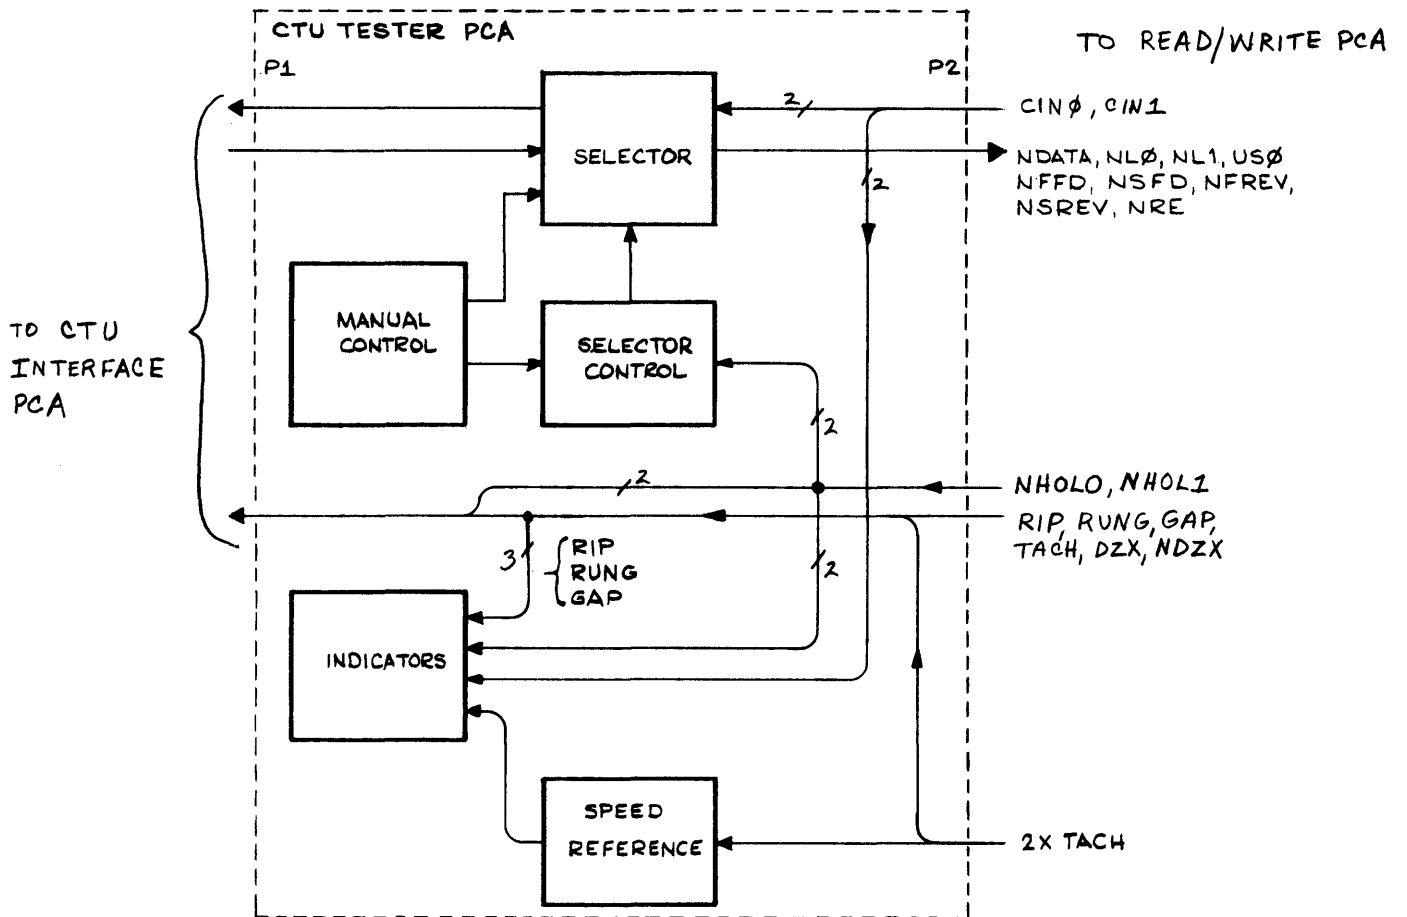
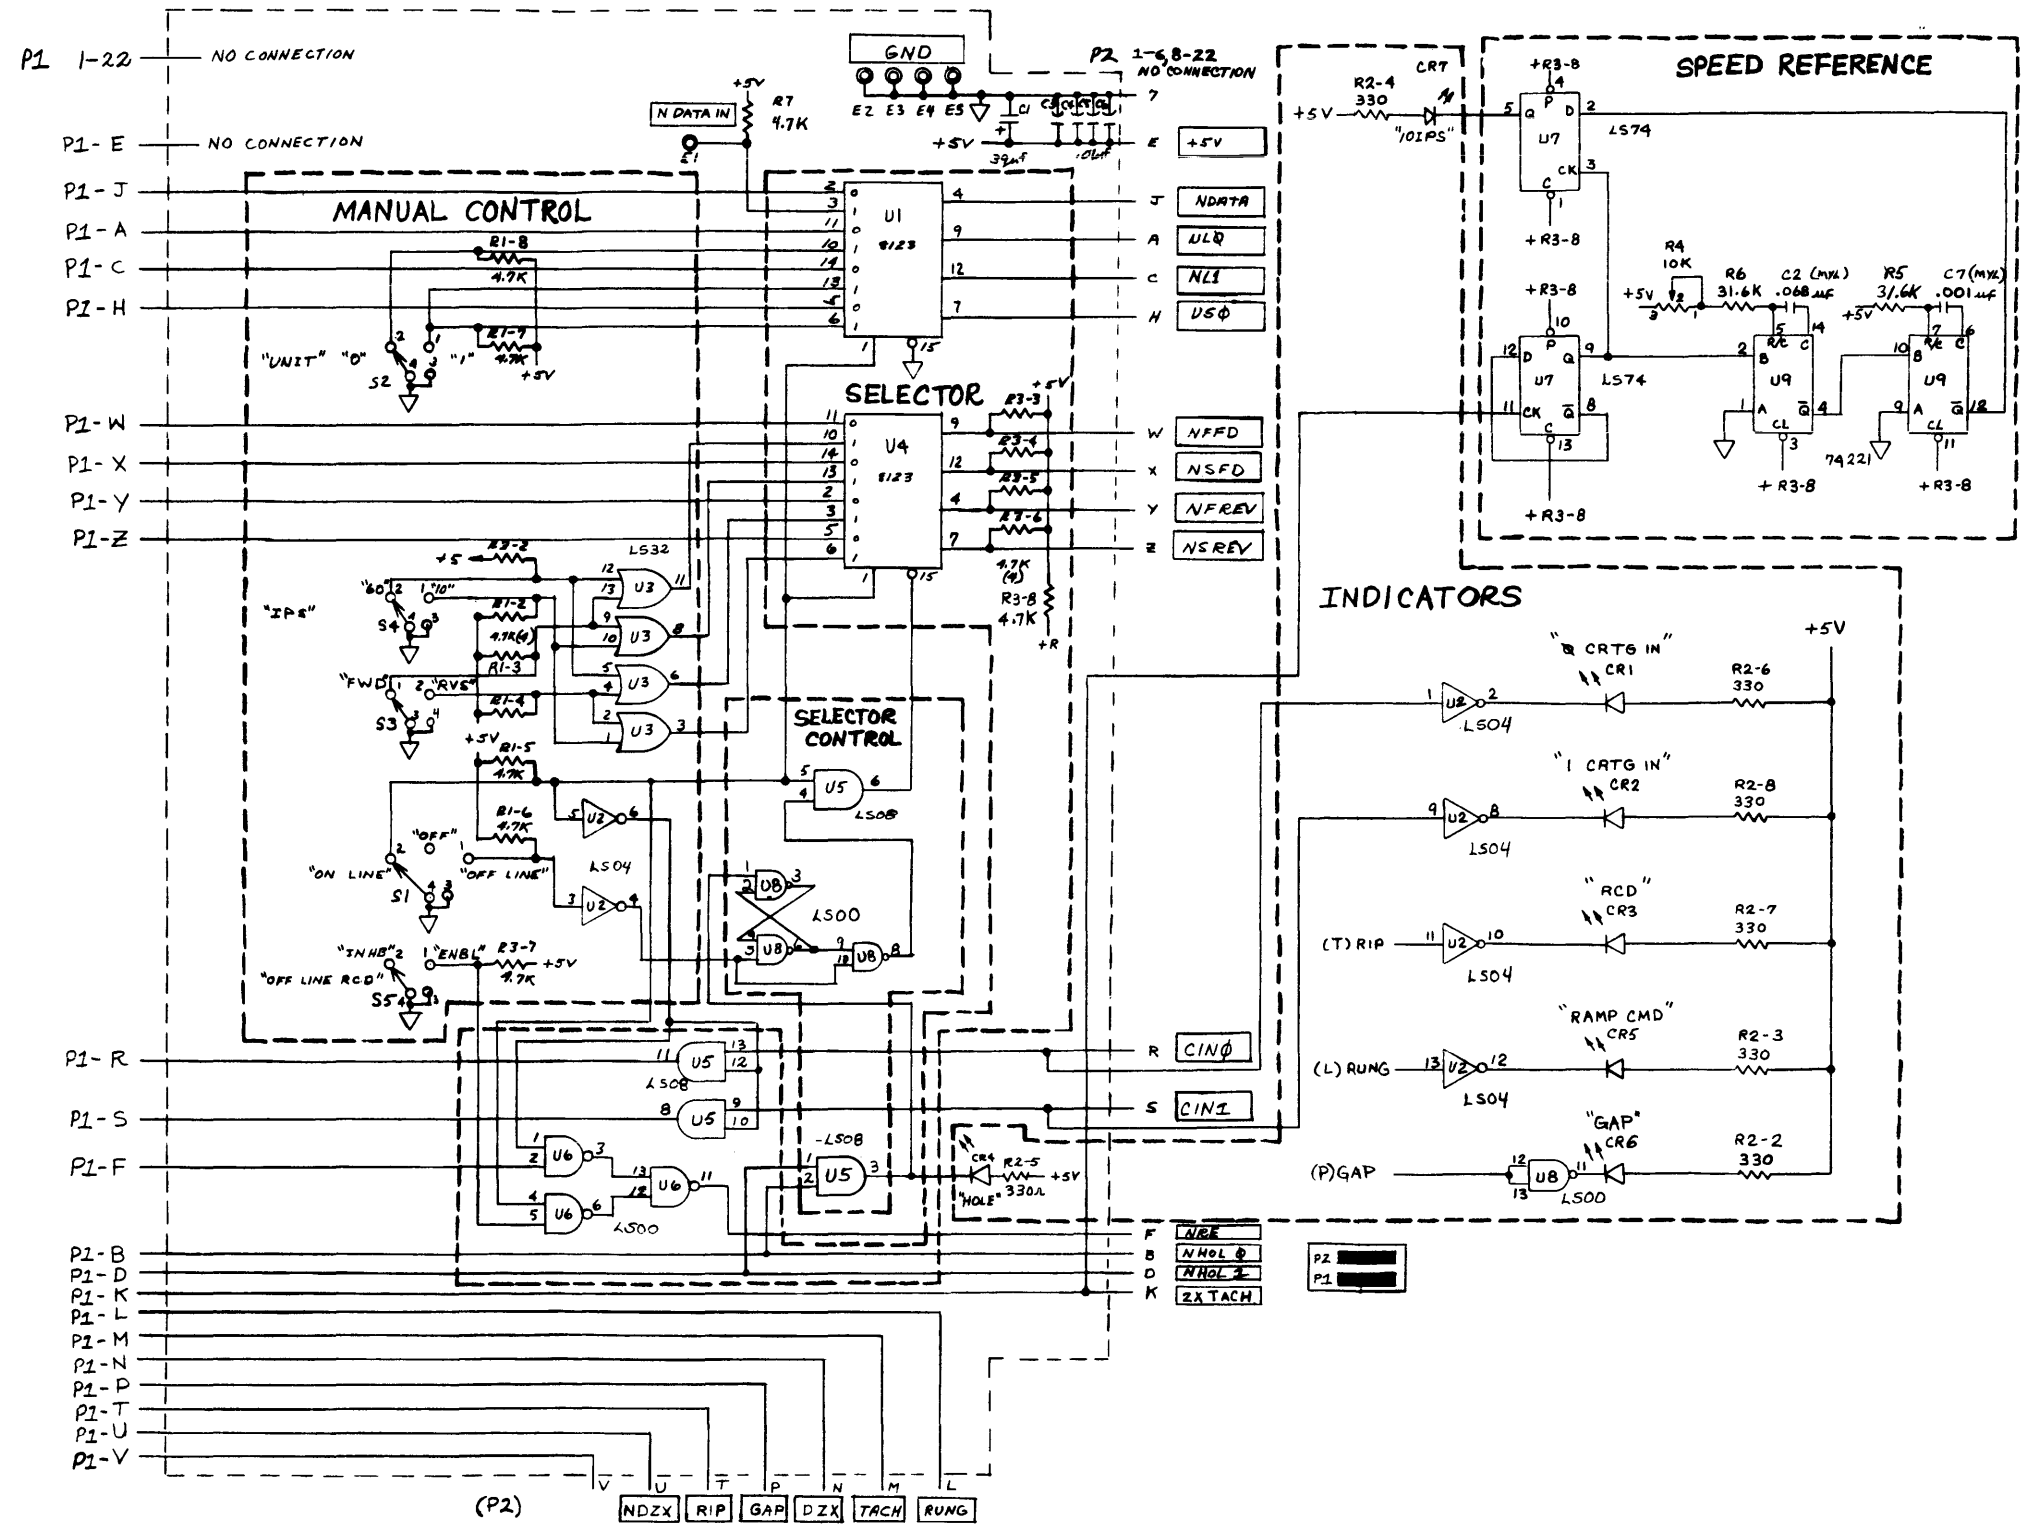
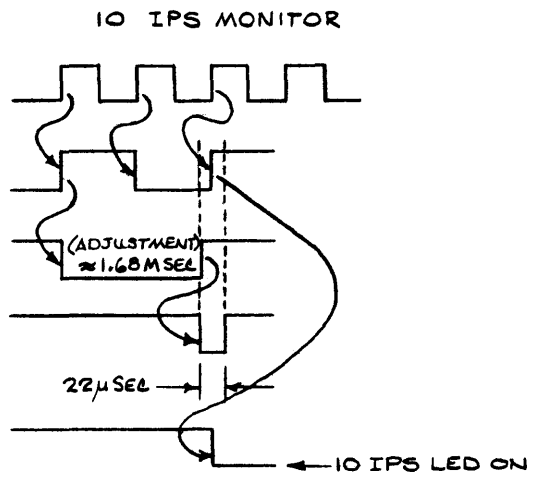
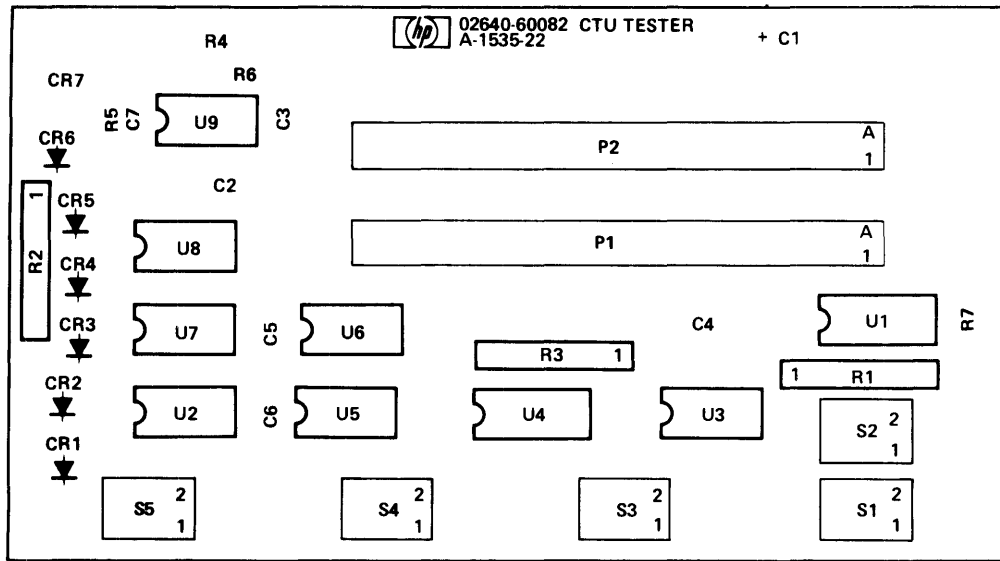

Figure 1
Figure 2
Figure 3
Figure 4
3.0 FUNCTIONAL DESCRIPTION. Refer to the block diagram (figure 1), schematic diagram (figure 2), timing diagram (figure 3), component location diagram (figure 4), and parts list (02640-60082) located in the appendix.